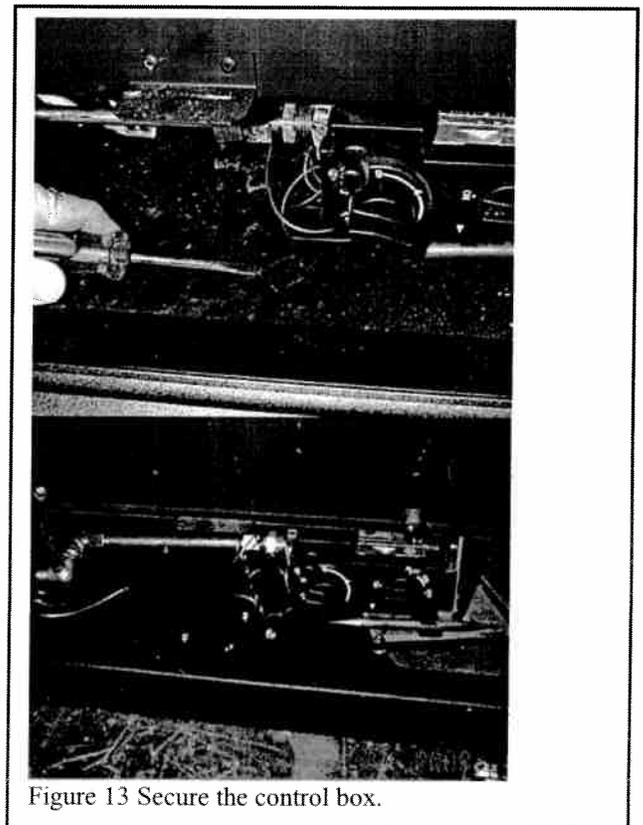

Figure 13 Secure the control box.
- Fix the control box to the bracket using the screw provided. The bracket is flat when the unit is received, and should be bent up before securing the control box. (Fig.13)